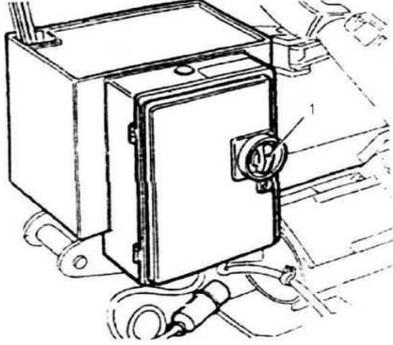

Fig4
- 1.Main Switch (See Fig.4)
Note: Hydraulic pump motor and Gear box motor are equipped with overload protection device, it is in the control box see Fig.4